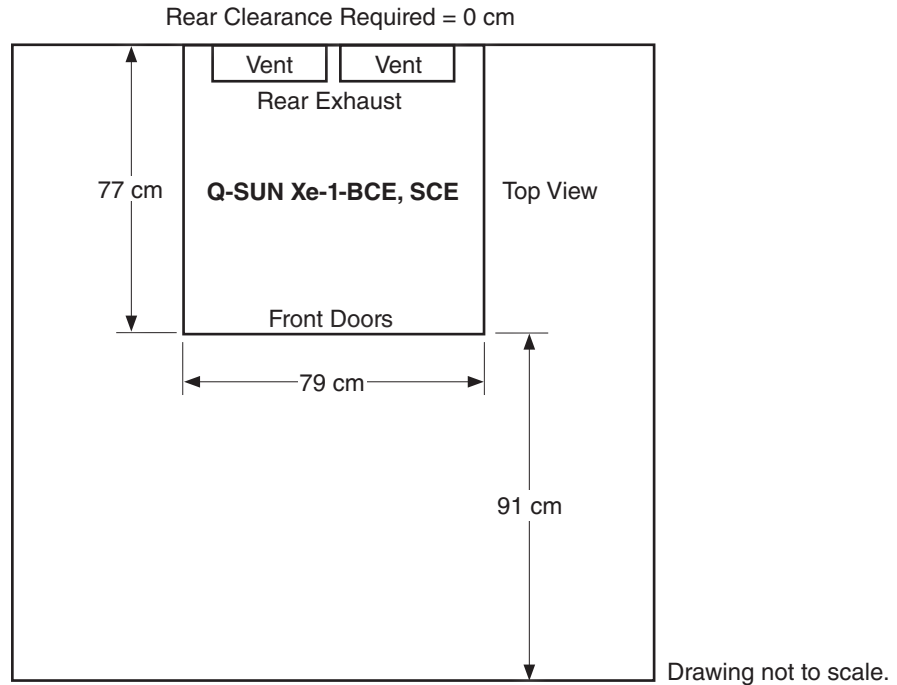

Figure 6.1b: Q-SUN Xe-1-BCE, Xe-1-SCE minimum clearance and space requirement.
- Figure 6.1b shows external dimensions and space requirements